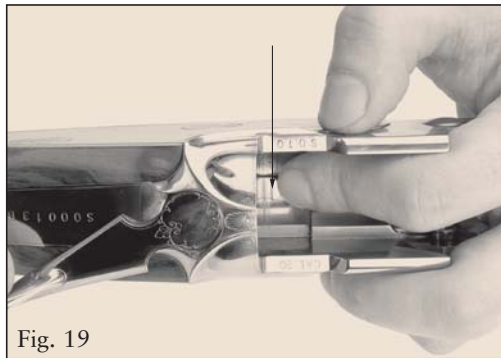

Fig. 19
Proceed as follows: push the top lever completely to the right past the stop position and depress the top lever plunger (located on the lower section of the breechface of the receiver) (Fig. 19). Once the top lever plunger is completely depressed, release the top lever to its centered position.
- Remove the barrels from the receiver and push the top lever into the home position (Fig. 19 page 82) (See paragraph: “DISASSEMBLY”).